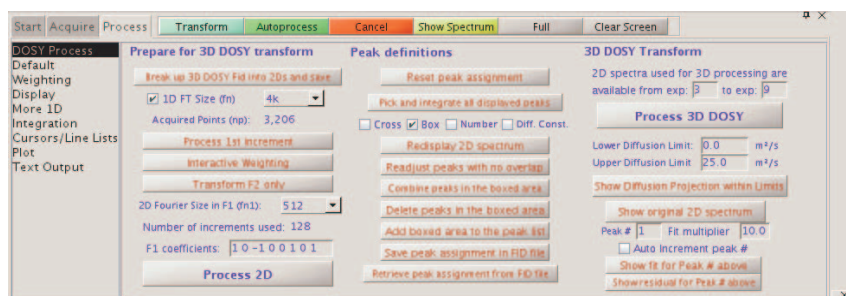

Figure 60. DOSY Process panel of the phase sensitive 3D-DOSY
Figure 60 shows the VNMRJ DOSY Process panel of the phase sensitive 3D-DOSY sequences.
4. Press the **Break up 3D DOSY FID into individual 2Ds and save** button (see Figure 60) or enter `unpack_DOSY3Dps` on the command line.